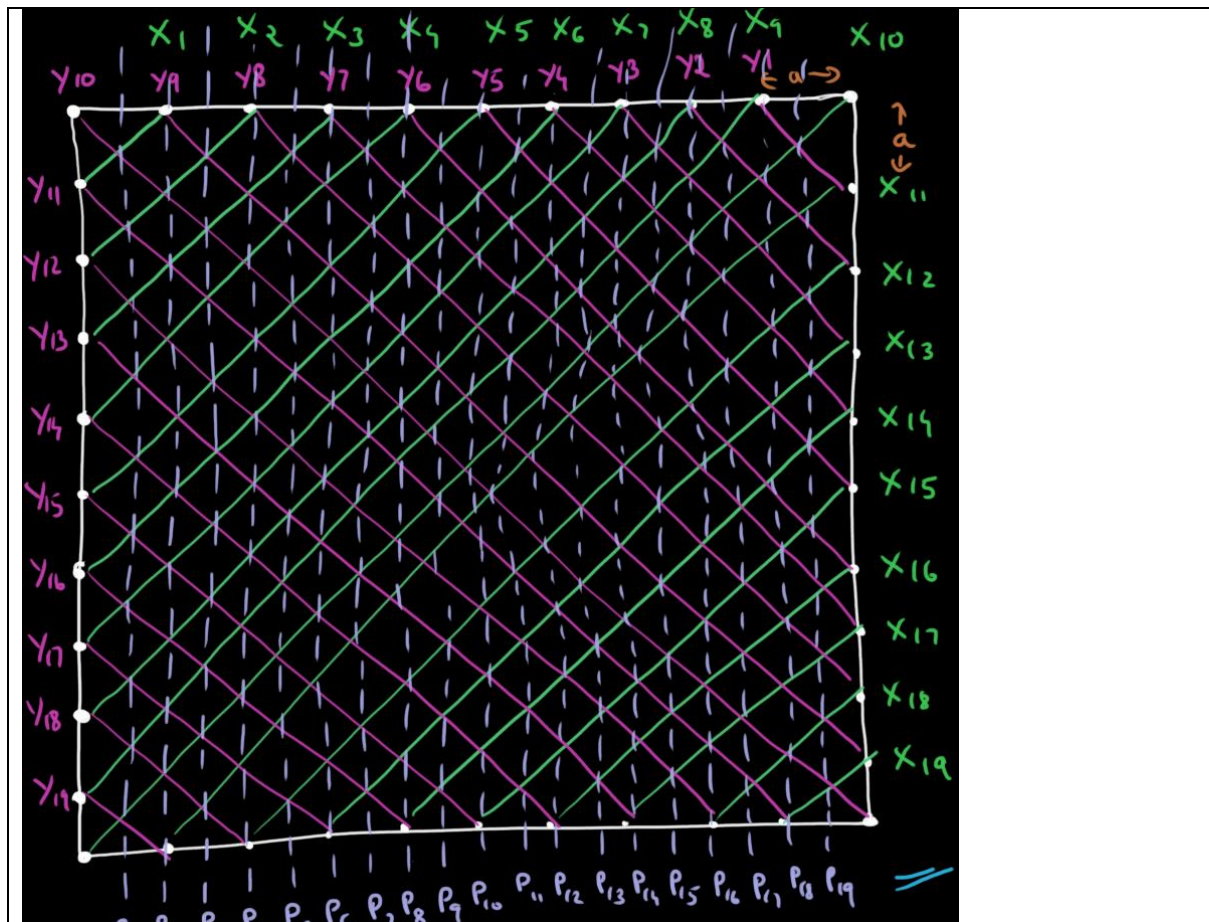

Fig 2: Illustration of sensor grid (note here we have not shown 63 sensors but only 38 for the sake of illustration)
We use a total of 63 of such sensors to form a grid of Lasers(62) in order to locate the ball and to detect the catching of the ball(1). Refer fig 2 for illustration.